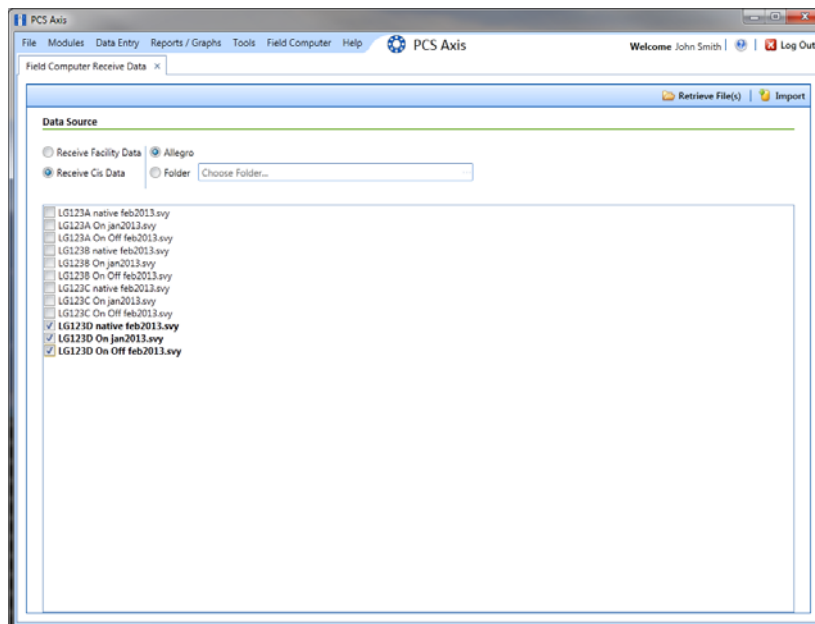

Figure 12-20. Field Computer Receive
- 4 Click  **Retrieve File(s)** to view a list of survey files available for selection (Figure 12-20).
- 5 Select the close interval (CI) survey files you want to transfer from the Allegro. Click the check box for one or more survey files listed in the *Field Computer Receive Data* window.